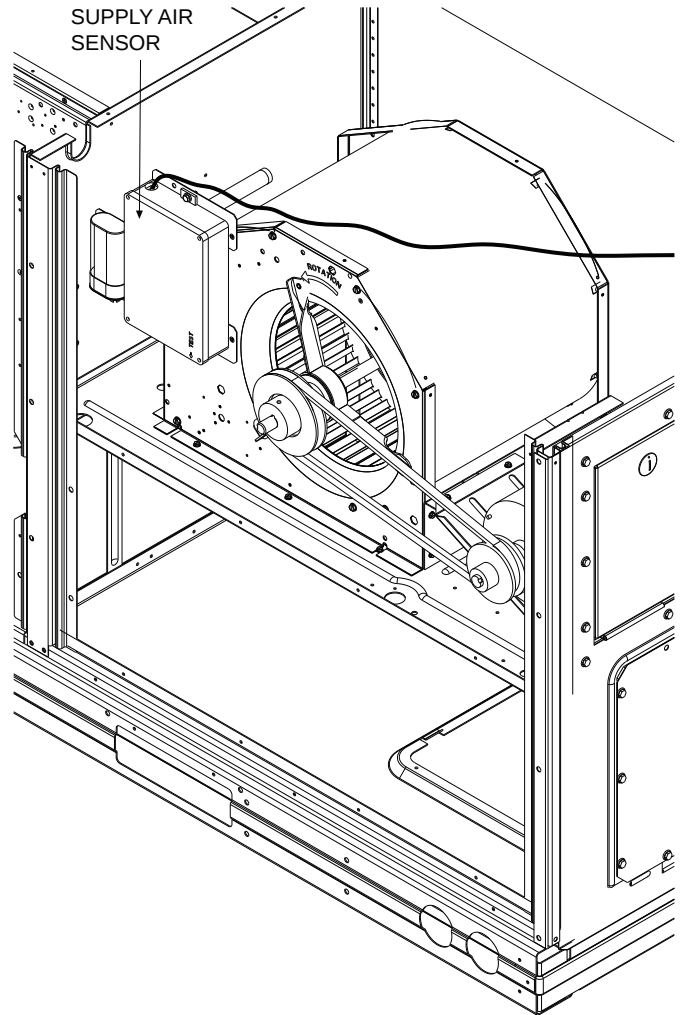

Fig. 15 — Supply Air Sensor Mounting Location
- a. For 48/50TC, 580J, 558J, 548J, RGS, RAS, RHS units (3 to 6 tons) and 48/50HC, 581J, 551J, 549J, RGH, RAH, RHH, 48/50LC, 48/50KC, 582J, 559K, 547J, RGX, RAX, RHX units (3 to 5 tons), refer to Fig. 15. Remove $\frac{7}{8}$ -in. knockout on the left side of the blower. Using two #8 screws, attach the sensor to bracket (50HJ542422), orienting the intake on the sensor such that it will align with the knockout on the blower. Insert the $2\frac{7}{8}$ -in. pickup tube (48HG503589) into the intake on the sensor so that the hole in the tube will be in the air stream. Attach the sensor's bracket to the blower.
- b. For 48/50TC, 580J, 558J, 548J, RGS, RAS, RHS units (7.5 to 15 tons) and 48/50HC, 581J, 551J, 549J, RGH, RAH, RHH, 48/50LC units (6 to 10 tons), refer to Fig. 15. Remove $\frac{7}{8}$ -in. knockout on the right side of the blower. Using two #8 screws, attach the sensor to bracket (48TM002384), orienting the intake on the sensor such that it will align with the knockout on the blower. Insert the $2\frac{7}{8}$ -in. pickup tube (48HG503589) into the intake on the sensor so that the hole in the tube will be in the air stream. Attach the sensor's bracket to the blower.